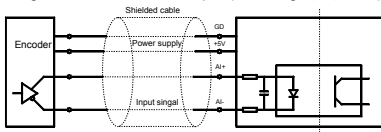

Figure 4 Long Line Differential Output Diagram
3. Output signal only applies to differential output. Refer to Figure 4 for circuit.